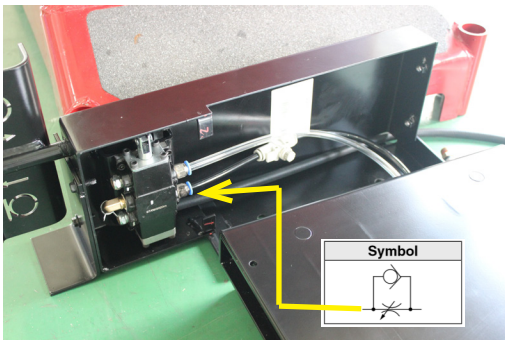

Figure 7 - Connect tubes
6. Place PEDAL BOX ASSY to the right orientation as (fig 7) shown and connect tubes by color, (black tube to black fitting and clear tube to the plain plated fitting).